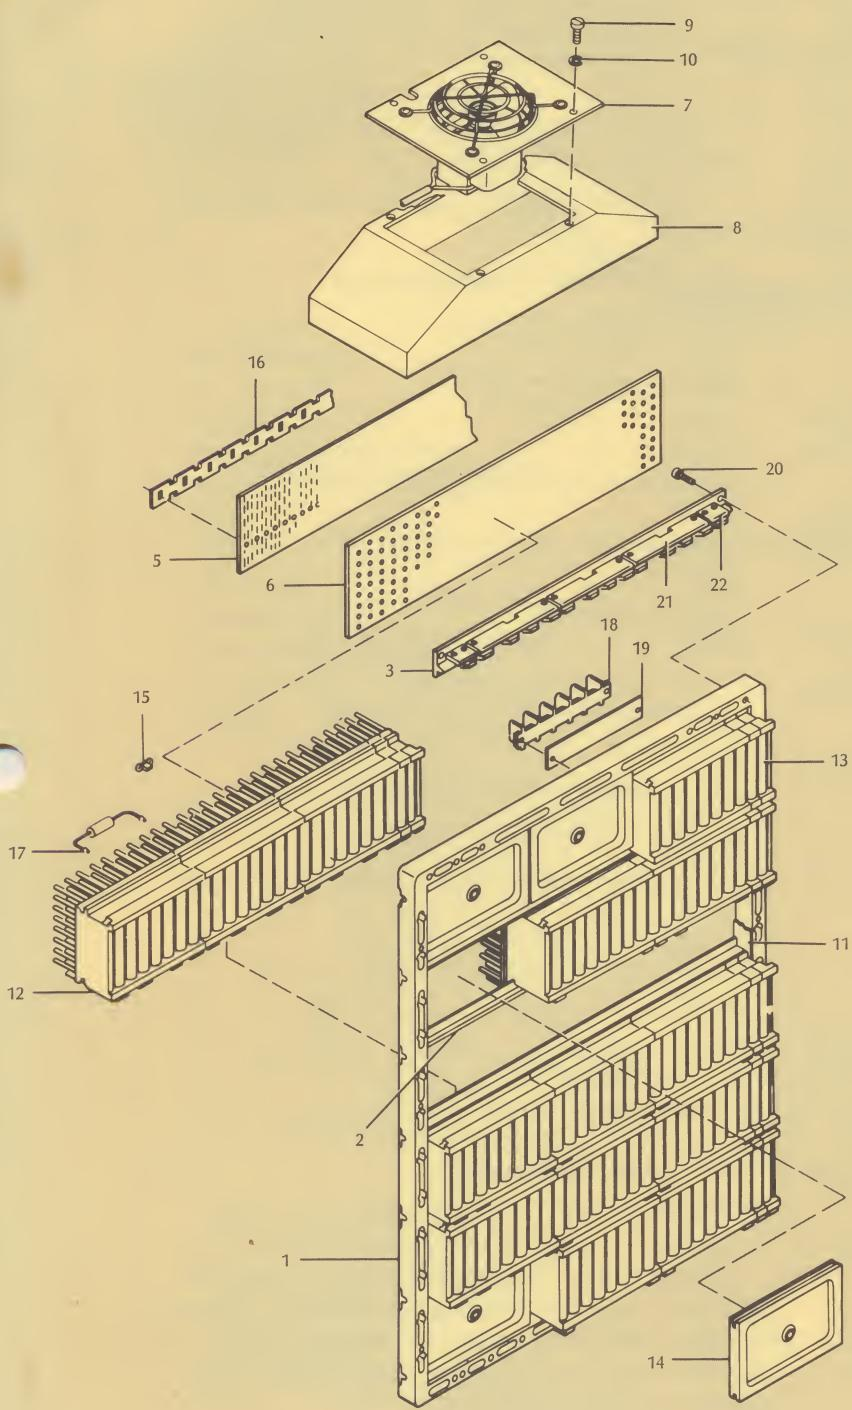

Figure 1: SMS Module I-Frame and Assembly Accessories
The method of assembling component parts for the Module II frame is identical to that for Module I, shown in Figure 1.
**Back Panel Cards**—To simplify the wiring of SMS modules, back panel wiring cards, ground planes, and voltage chains are available. These components are shown in Figure 1. The ground planes have been designed using pin (J) as the common or ground pin.
\*Item numbers refer to Figure 1.